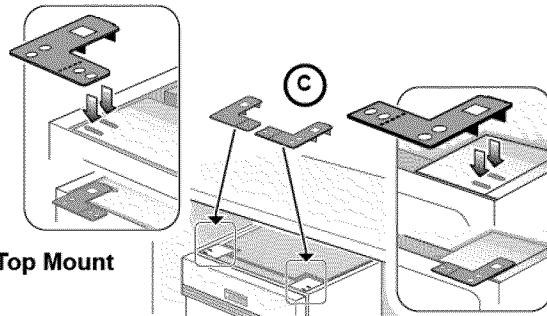

Figure 17
**Top Mount** is used for countertops made of wood or other materials that can be easily drilled. Orient the mounting brackets as shown in **Figure 17**, and position the two small tabs on the mounting brackets over the two slots on the dish-washer's front corners. Push the mounting brackets down firmly to insert the tabs into the slots